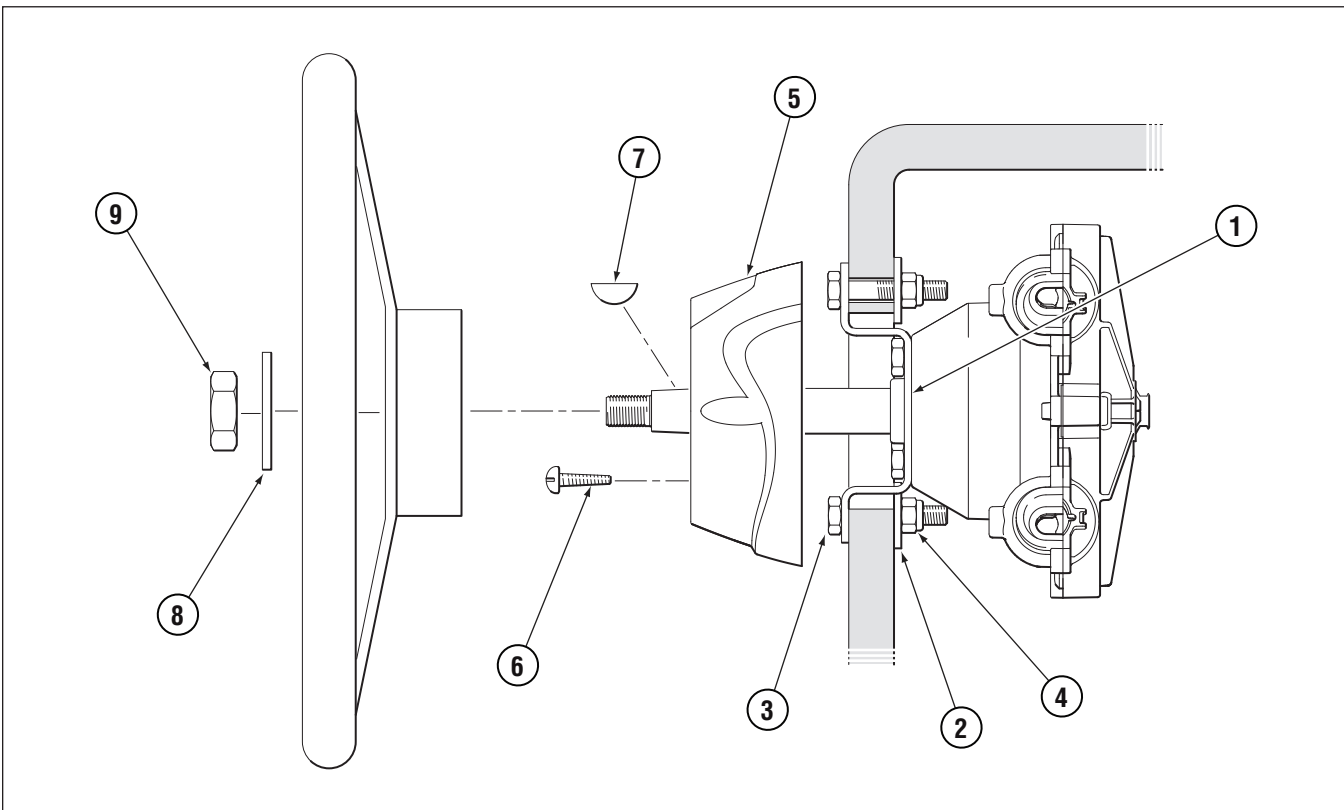

Figure 5.
- STEP 1.** Center bezel (item 5) around shaft and fasten in place using two (2) self-tapping screws (item 6) as shown in figure 5. Tighten snugly, taking care not to over-torque which may crack the bezel or strip screw threads.